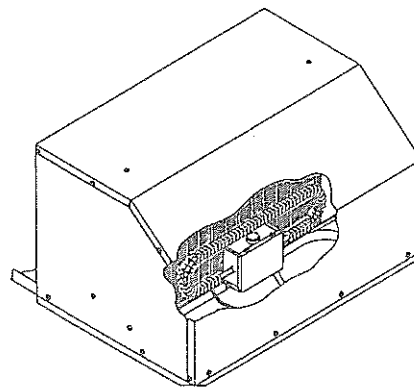
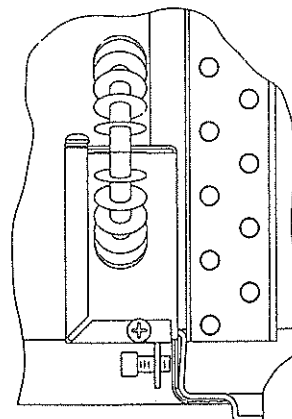

FIGURE 6
FIGURE 7
- C. If the ceiling assembly is equipped with an Electric Heating Element, remove the heater assembly from the ceiling assembly chute. Position the heater assembly in the air conditioner return air opening as shown in Figure 6. The heater bracket must be installed over the metal basepan extrusion and positioned between the basepan and the plastic drain pan (See Figure 7). Tighten set screw to secure the assembly so as to prevent movement.